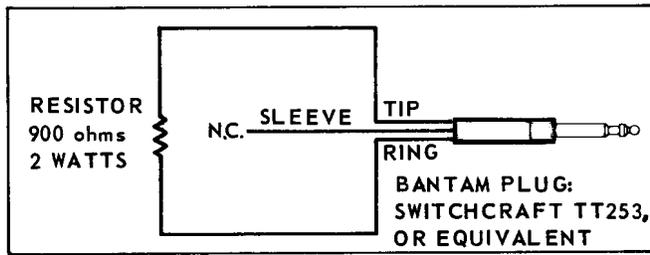

Fig. 1 — Terminating Plug, 900-Ohm, 2-Watt — Schematic Diagram
- 1 Terminating Plug; 900-ohm, 2-watt local manufacture, see Fig. 1.
2	Disconnect the signal source, and terminate the line under test by plugging a 900-ohm terminating plug, Fig. 1, into the EQPT jack for the line under test on the jackfield (or at the distribution frame if the jackfield is not installed).